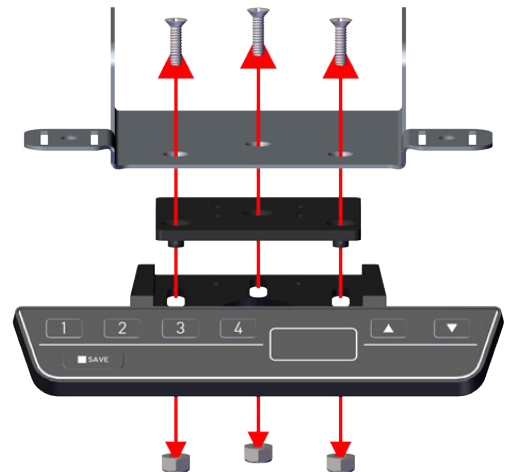

Fig. 13: Remove Memory Control Pad from bracket
4. Remove three bolts and nuts from controller bracket mount (Fig. 13).